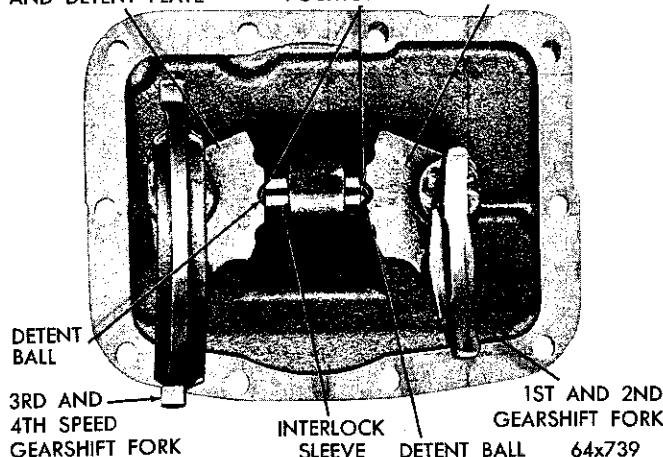

Fig. 5—Transmission Shift Housing Assembly
(8) Slide the gearshift interlock sleeve, interlock pin and spring out of the housing (Fig. 5).
(9) Remove the main drive pinion bearing retainer attaching bolts, then slide the retainer and gasket from the main drive pinion shaft. Remove the pinion oil seal.
(10) Remove the bolts that attach the extension housing to the transmission case.